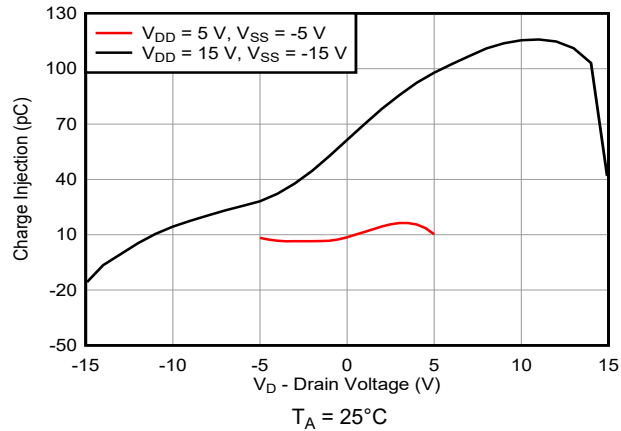

Figure 9-2. Charge Injection vs Drain Voltage
The low on-resistance of TMUX6236 and ultra-low charge injection performance make this device ideal for implementing high precision industrial systems. The TMUX6236 contains specialized architecture to reduce charge injection on the Drain side (D) (for more details, see Section 8.2.7). Figure 9-2 shows the plot for the charge injection versus source voltage for the TMUX6236.